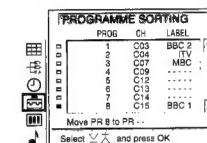

Fig. 14
- 3 Select »Programme Sorting« with  $\Delta$  or  $\nabla$ - and press OK. The PROGRAMME SORTING menu appears. (See Fig. 14.)